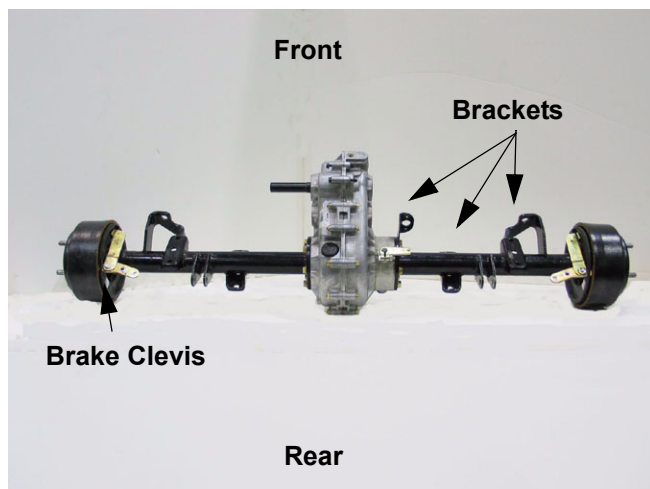

Figure 10.2
- 10.2. This is a bench procedure. For any internal repairs, the transaxle must be removed from the vehicle. See Figure 10.2.